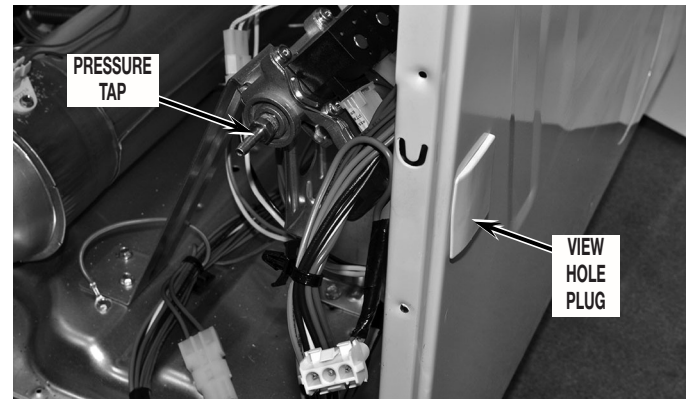

FIGURE 2
- Insert pressure tap and finger-tighten. Remove view hole plug from side panel. See Figure 2.